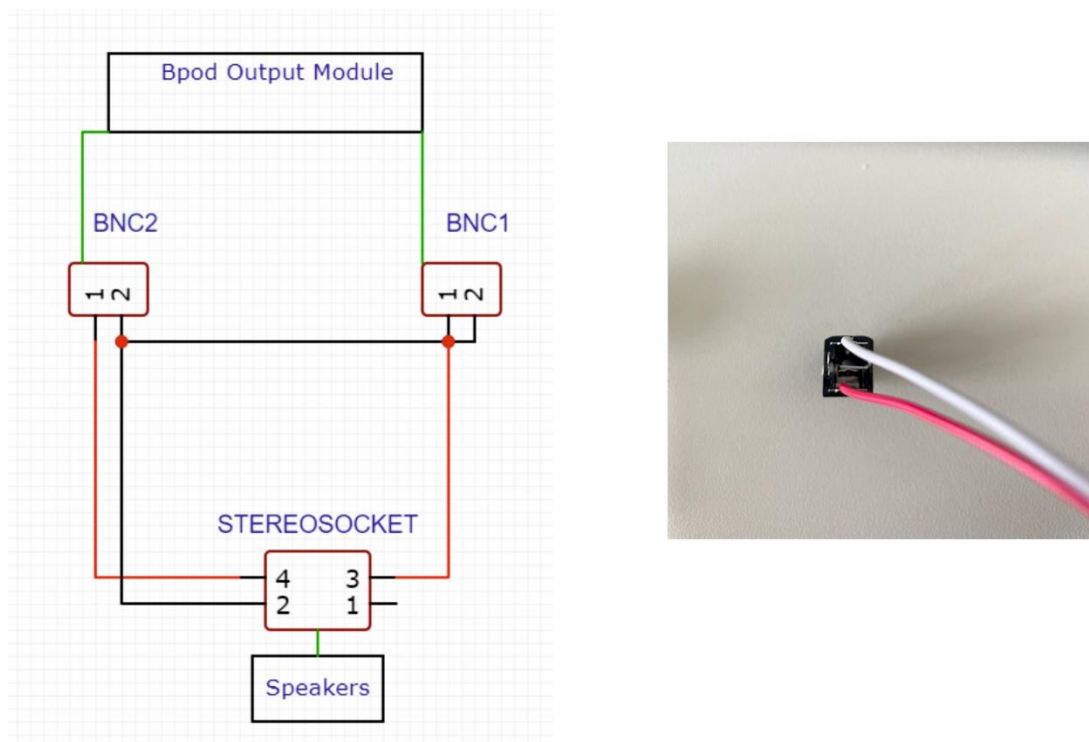

Figure 10 Illustration of the Auditory-Bpod connctitions
3. Stereo sockets have 4 pins; the top and bottom ones are the main ones. Connect main wire 1 and main wire 2 from the BNC sockets to these pins (**Figure 10**).
4. Attach the shared wire to one of the remaining pins in the stereo sockets (**Figure 10**).